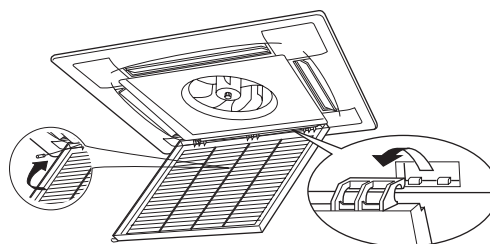

fig.9-2
- 2 Take out the air-in grill (together with the air filter shown in fig.9-2).**